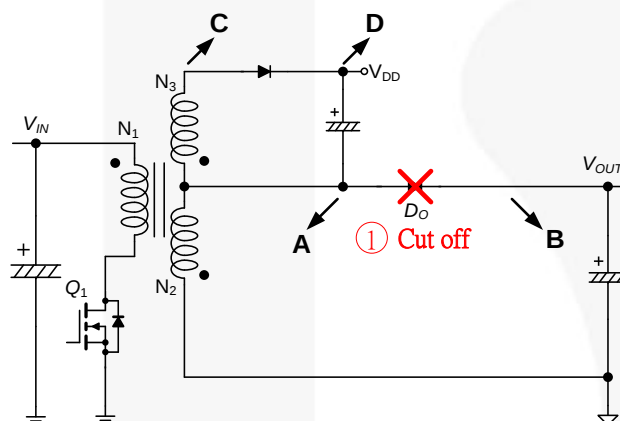

Figure 8. High-Side Application
Figure 8 shows the flyback system for high-side application. To mount the daughter card on the high-side, cut the connection of transformer terminal (A) and output terminal (B).